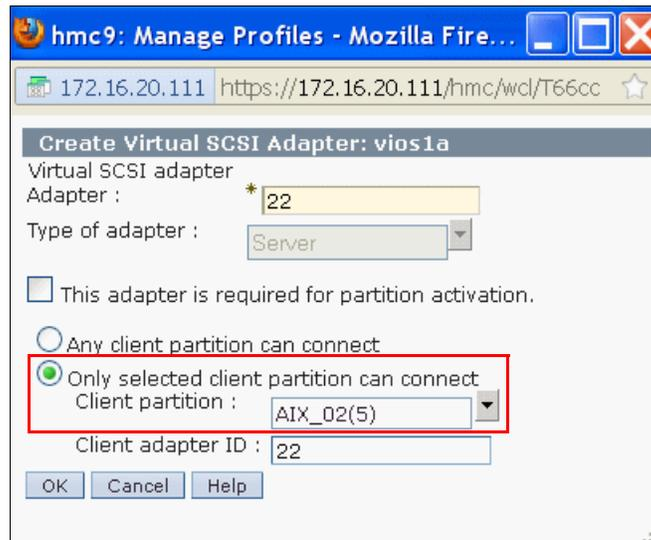

Figure 5-3 Select the appropriate virtual I/O client
- ▶ In a SAN environment, a LUN is assigned to the Virtual I/O Server Fibre Channel adapter. The Virtual I/O Server maps the LUN to the *vhost* that is associated to a virtual SCSI client adapter. From a security perspective, ensure that the specific client is connected to the virtual Fibre Channel server adapter, by explicitly selecting a partition, as shown in Figure 5-3.